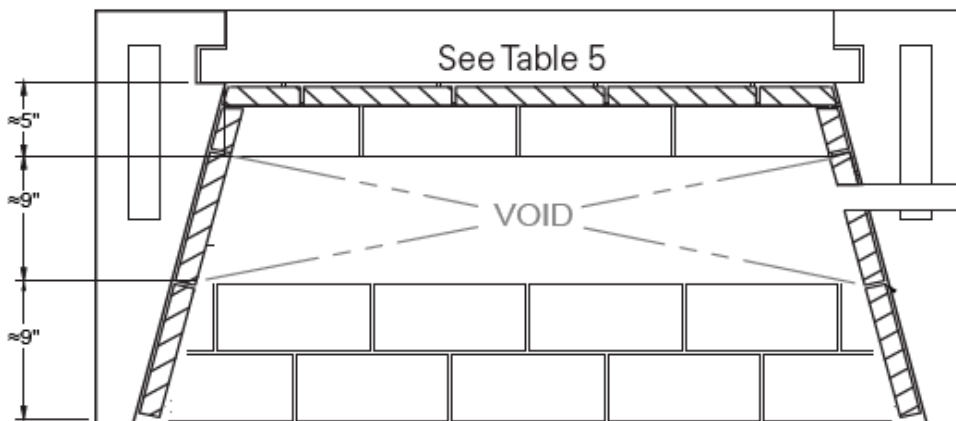

FIGURE 41
- 3) The burner cavity must have a height of 2-1/2”, a depth of 8-3/4”, and the length shall extend the entire length of firebox. **(Table 5; Figure 41 & 42)**